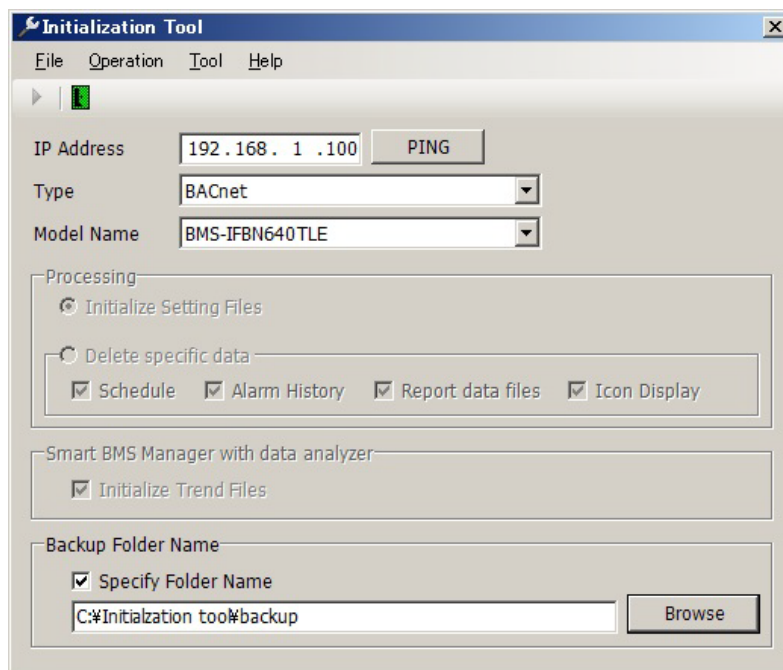

Fig.441 [Initialization Tool] screen
- 3 Specify a backup folder. (Fig.441)**